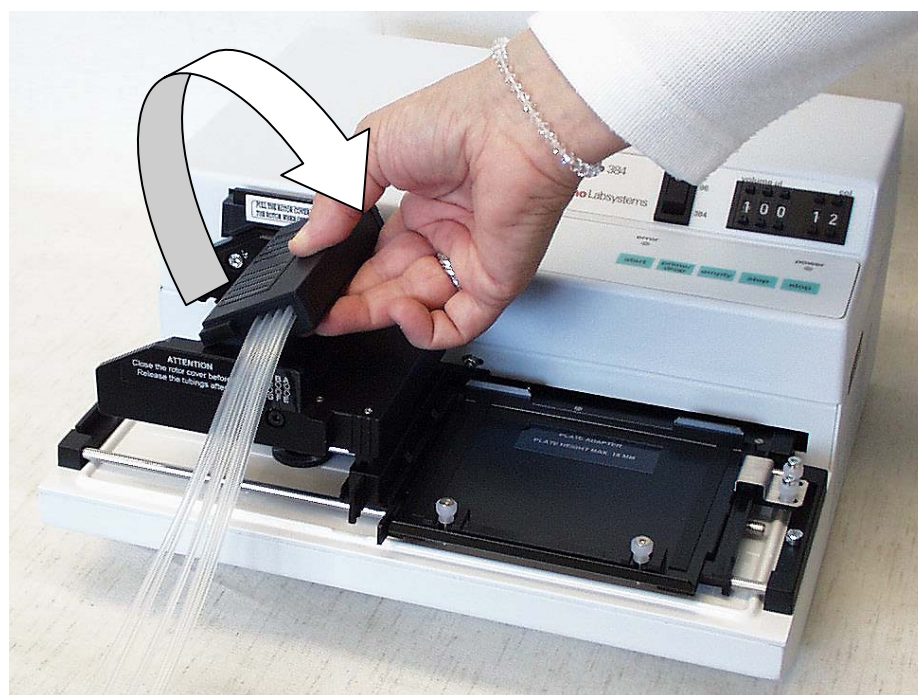

Fig. 6.4 Inserting the upper part of the dispensing cassette
4. Take a firm grip on the upper part of the cassette with your right hand and carefully pull the tubes around the rotor until the upper part reaches and fits into the upper part slots of the pump body (*Fig. 6.4* and *Fig. 4.1*).